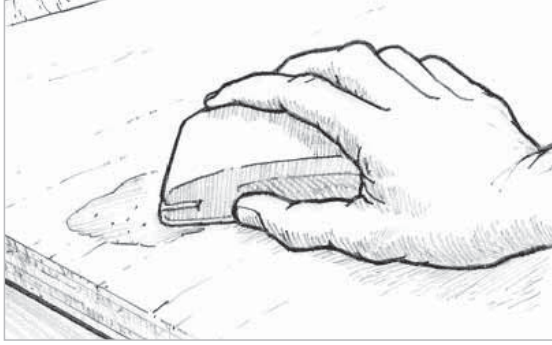

Figure 5-16 Sand the fairing material to blend with the surrounding contour.
6. Sand the fairing material to blend with the surrounding contour (*Figure 5-16*). Begin with 50-grit sandpaper if you have a lot of fairing material to remove. Use 80-grit paper on the appropriate sanding block when you are close to the final contour. CAUTION! Don't forget your dust mask. Remove the sanding dust and fill any remaining voids following the same procedure.